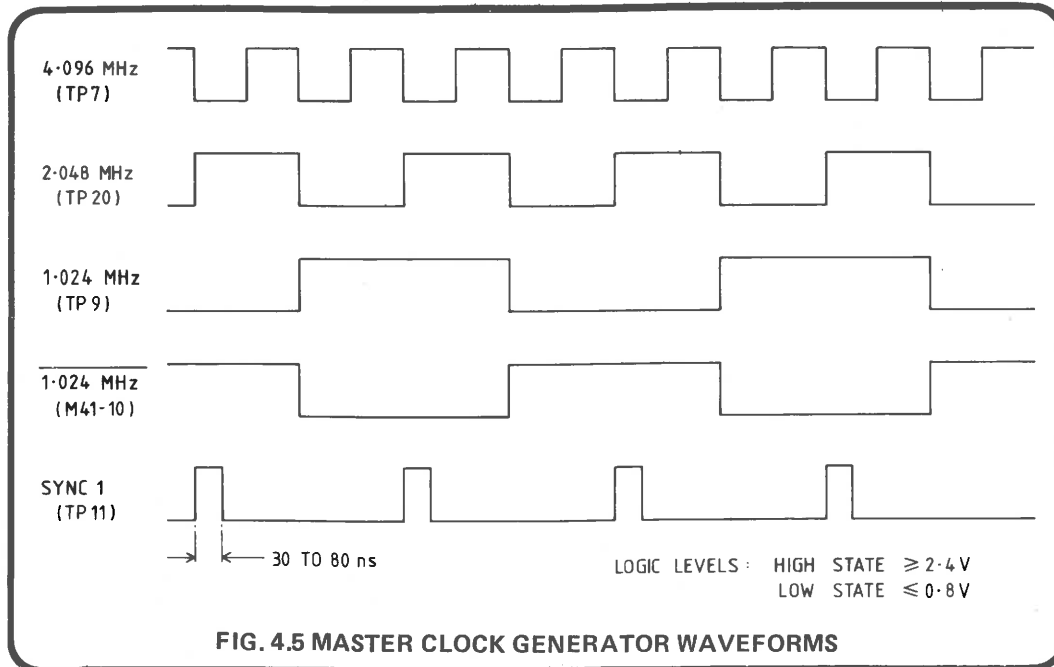

FIG. 4.5 MASTER CLOCK GENERATOR WAVEFORMS
4.2.6 Master Clock Generation (Circuit Diagram No. 430443 Sh. 3) (refer to Fig. 4.5 for waveforms)